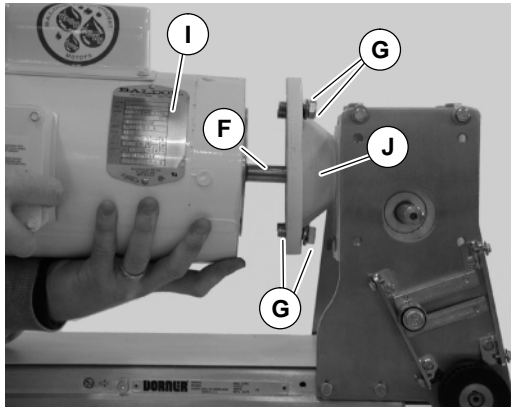

Figure 29
6. Attach new gear reducer to top mount with screws (Z).
7. With key (F of Figure 29) in keyway, slide motor (I) and gear reducer (J) together. Install screws (G) and tighten.